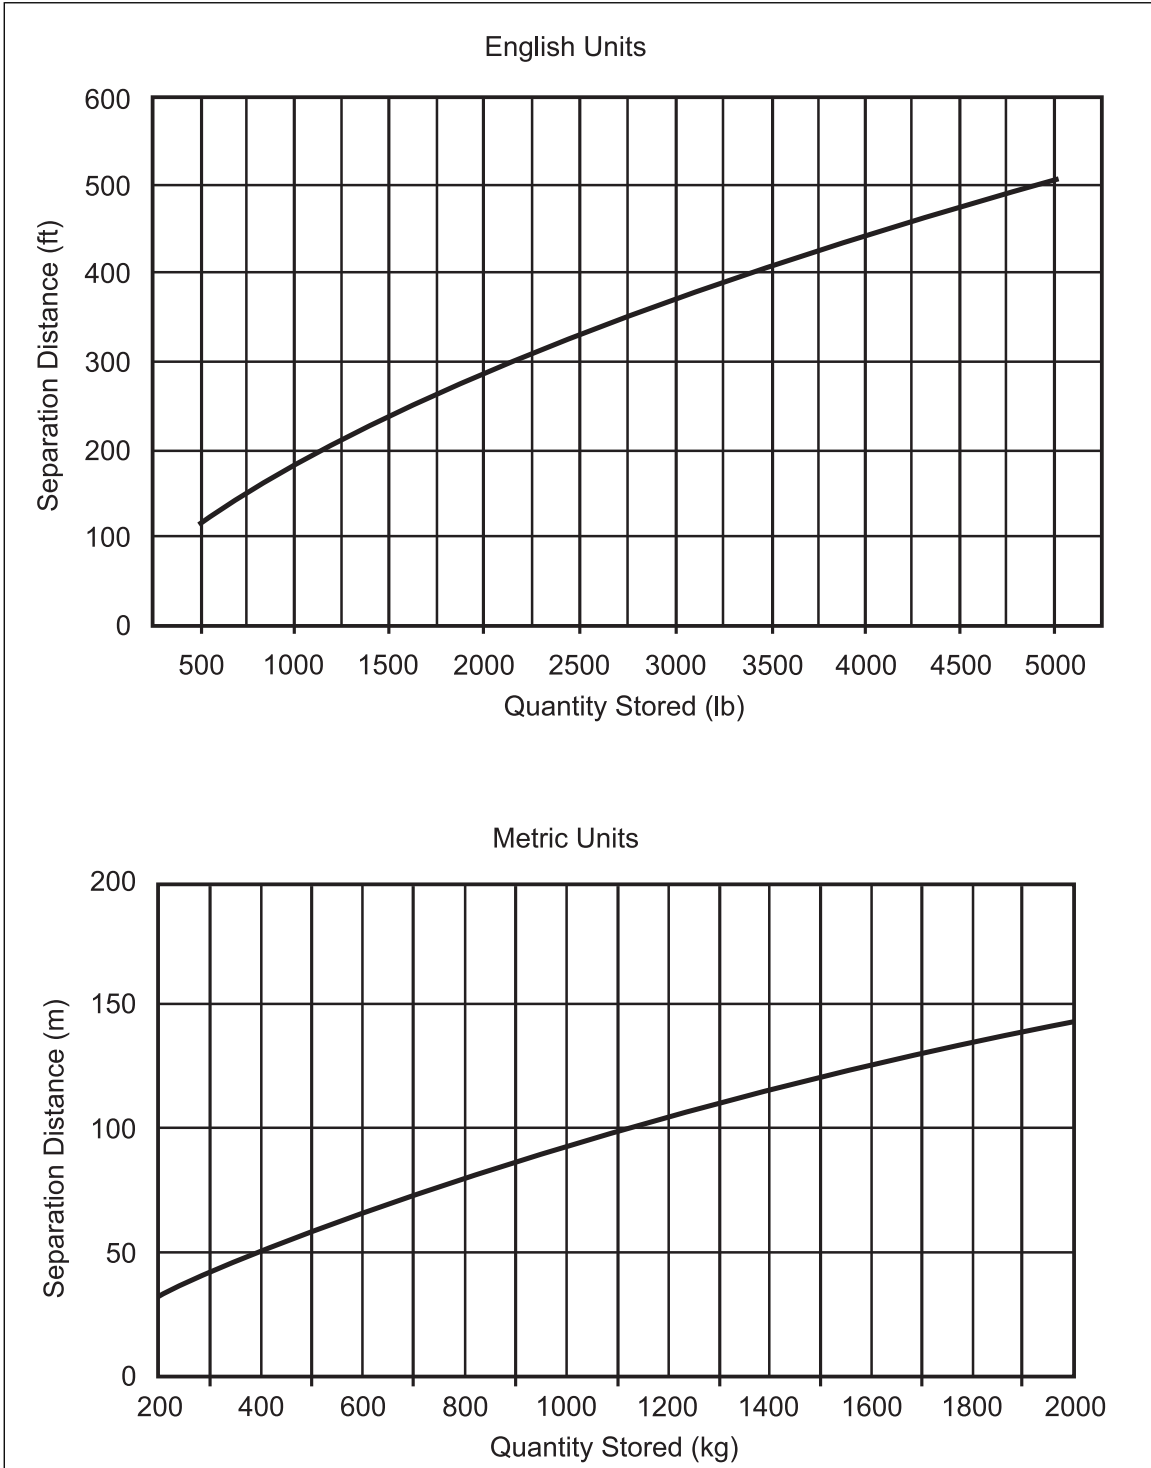

Fig. 3. Separation distances, Class 4 oxidizers
2.10.2.1.1 Locate detached storage areas for class 4 oxidizers according to the quantity of material stored and separation distances provided in Figure 3.